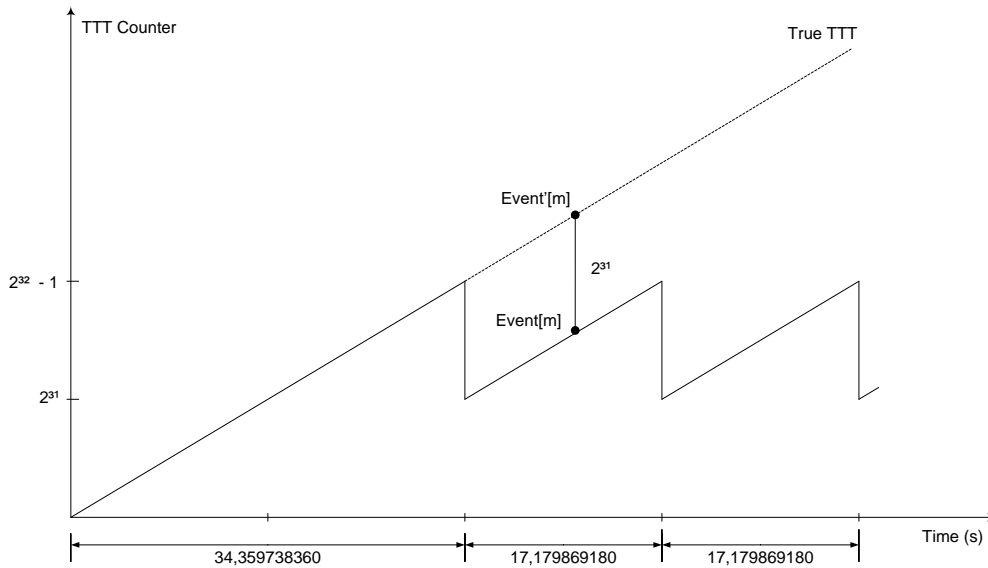
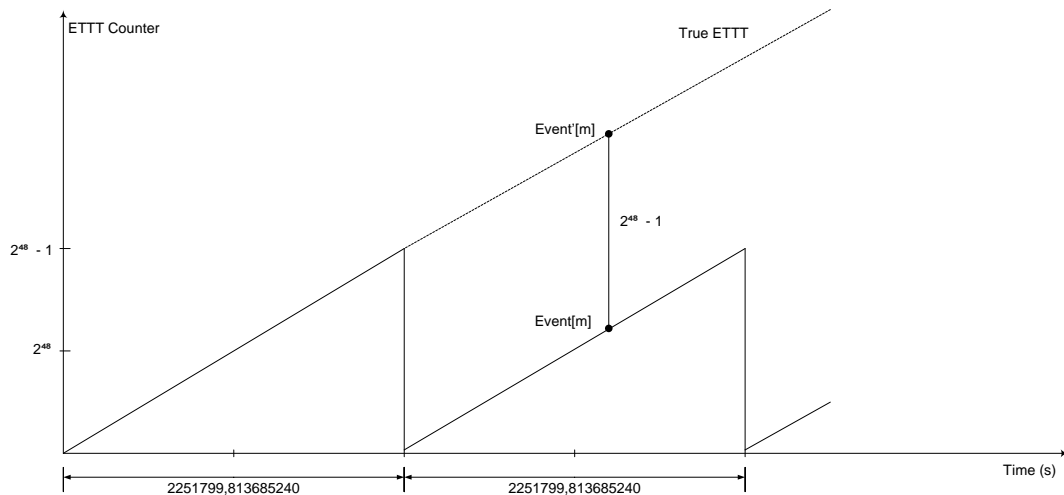

Fig. 8.9: TTT description in case of N6730
Fig. 8.10: ETTT description in case of N6730
- **TRIGGER TIME TAG** (bit[31:0] of 4th header word) is the Trigger Time Tag information (TTT), that is the trigger time reference. The TTT is given by the value of the 31-bit counter, while the 32nd bit is asserted when the first roll-over event occurs (**Fig. 8.9**). If the ETTT option is enabled, then this field becomes the 32 less significant bits of the extended 48-bit trigger time tag information in addition to the 16 bits (MSB) of the TRG OPTIONS field (2nd event word). Note that, in the ETTT case, the roll-over bit is no more provided (**Fig. 8.10**). The trigger time tag is reset either after each start of acquisition or via front panel signal on GPI connector, and increments at 125MHz frequency for N6730, while at 62.5MHz frequency for N6725, which is every 4 ADC clock cycles. The trigger time tag value is read at half this frequency (62.5 MHz for N6730 and 31.25 MHz for N6725), so the trigger time tag specifications result in 16 ns resolution and 17 s range (i.e. $8 \text{ ns} \cdot (2^{31}-1)$) for N6730, which can be extended to 625 h (i.e. $8 \text{ ns} \cdot (2^{48}-1)$) by the Extended Trigger Time Tag option, while 32 ns resolution and 34 s range (i.e. $16 \text{ ns} \cdot (2^{31}-1)$) for N6725, which can be extended to 1250 h (i.e. $16 \text{ ns} \cdot (2^{48}-1)$) by the Extended Trigger Time Tag option.